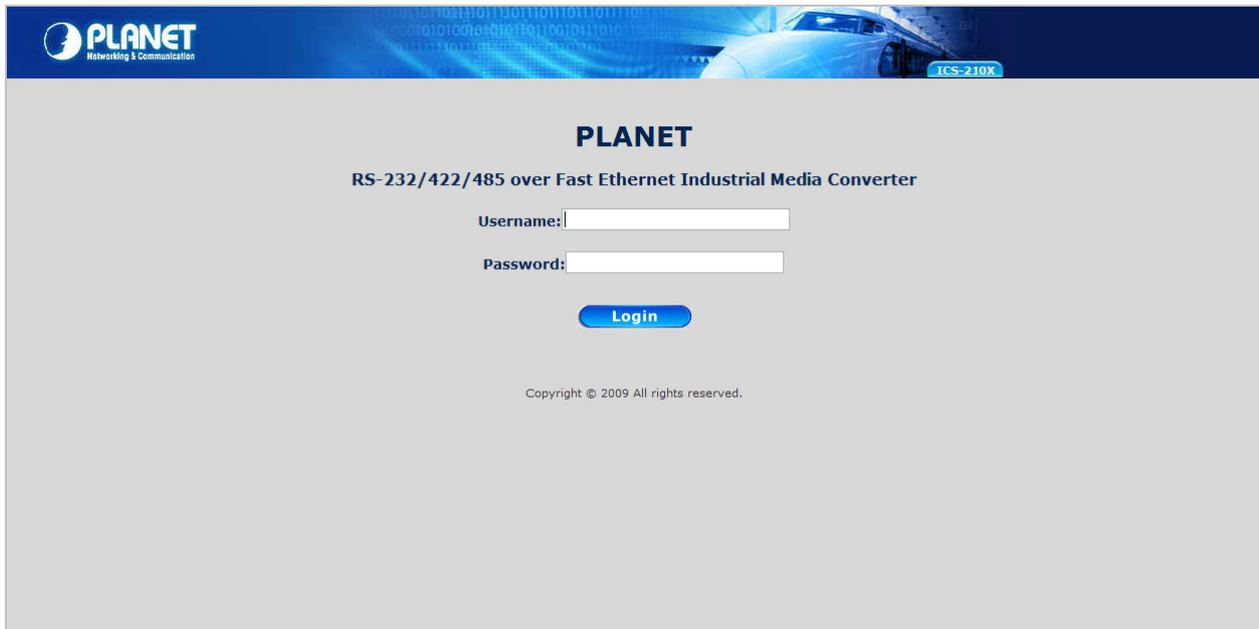

Figure 3-2 Login screen
2. When the following login screen appears, please enter the default username and password (default user name and password is **"admin"**). Press Login to enter the main screen of ICS-210x. The login screen in Figure 3-2 appears.